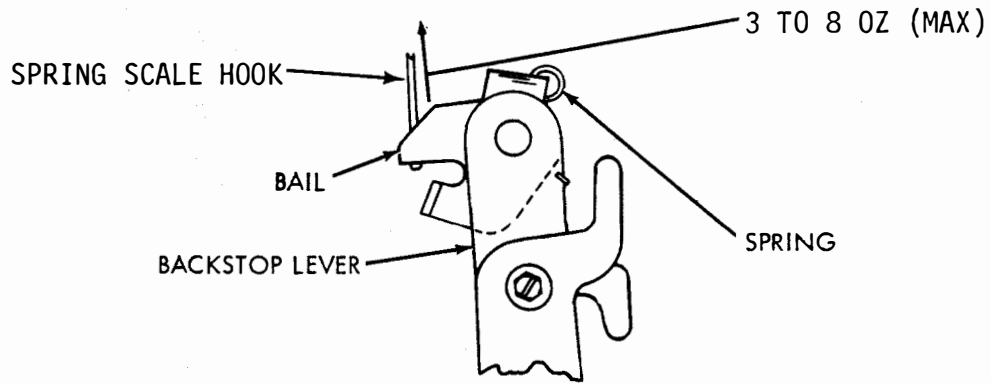

Figure 6-404. Tabulator Bail Spring, Left Side View
(14) Tabulator Bail Spring. Adjust as follows:
- Figure 6-404.